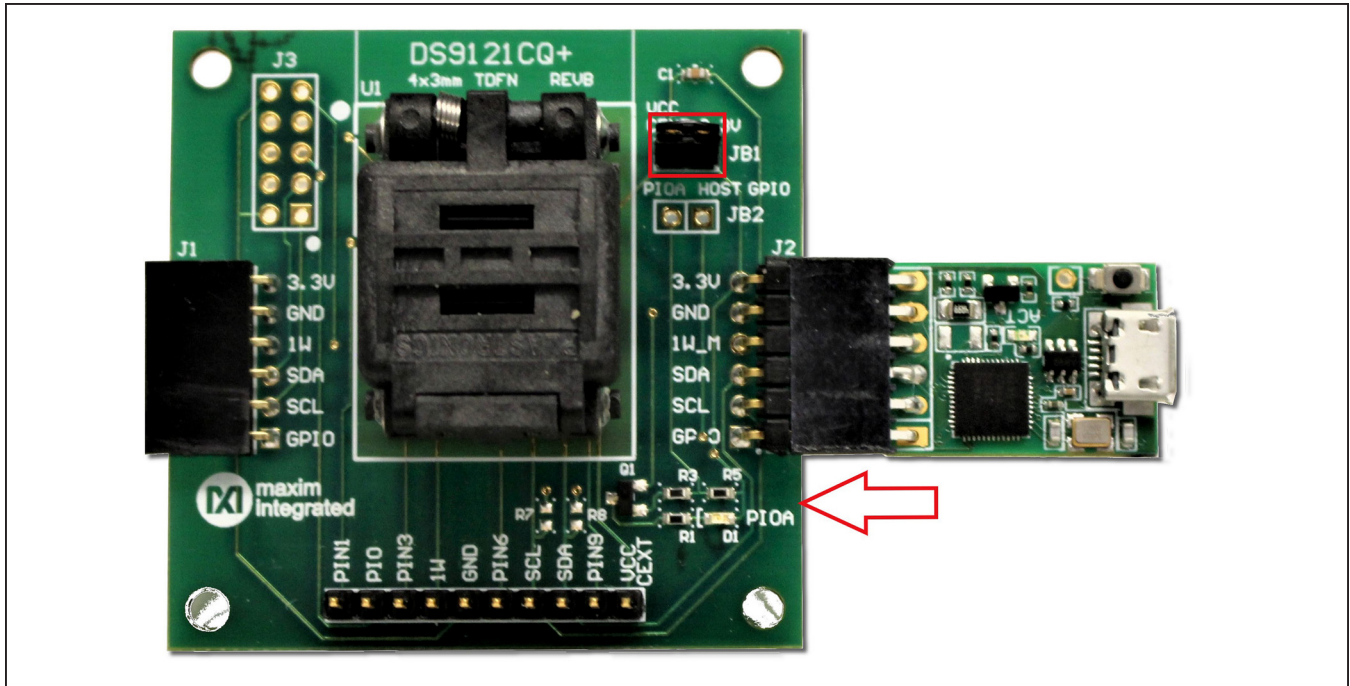

Figure 10. DS9481QA-300 and DS9121CQ
- c) Connect the DS9121CQ J2, 10-pin male plug, into the DS9481P-300#, 10-pin female socket (Figure 10).
- d) For the DS9121CQ+, insert jumper JB1 to use VCC (Figure 10).